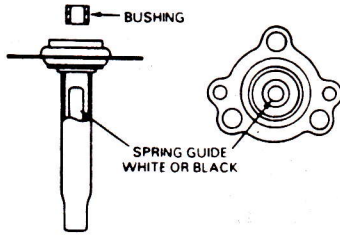

FIG. 1
-Canada ONLY.—When removing diaphragm & actuator assy. (30A), check if spring guide is white or black. If it's white, and replacement in kit is black, use small bushing with black guide. No bushing is required if replacing same color guide. However, do not replace black guide with white guide as it will not function correctly. (See FIG. 1).